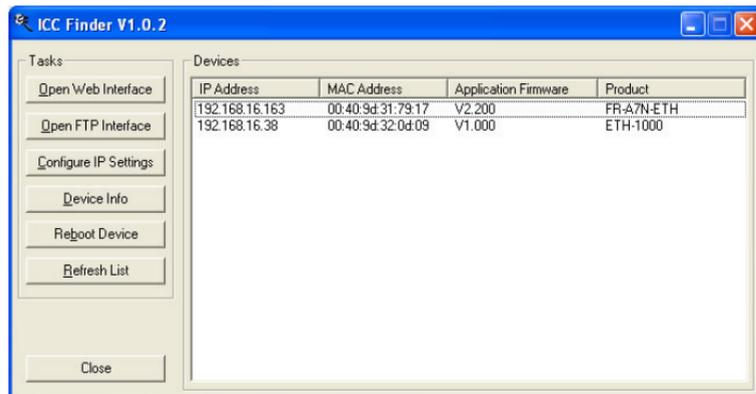

Figure 1: ICC Finder Discovery Utility
The “ICC Finder” application is a simple Windows PC program (just a single .exe file, no installations, DLL’s etc.), which when executed discovers all ICC communication interfaces on the current Ethernet subnet, regardless of whether or not their network parameters are currently compatible with the subnet upon which they reside. Refer to Figure 1.
3. The discovery utility scans the network for ICC devices and then lists each device's **IP Address**, **MAC Address**, **Firmware Version** and **Product ID**. Refer to Figure 1 on page 35. Identify your device by its unique MAC address (printed on a label on the top of the Ethernet network jack).